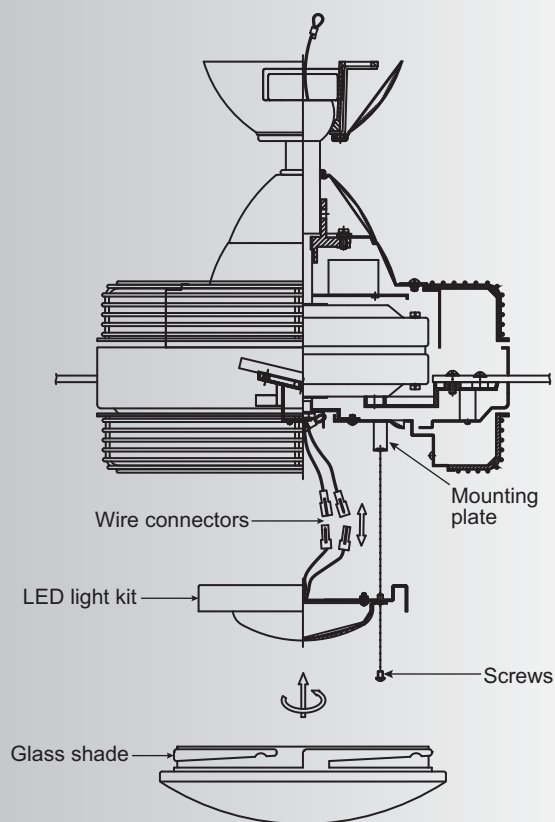

Fig. 20
Step 1. Loosen the three mounting screws on the inside of the LED light kit. (Fig.20)
Step 2. While holding the LED light kit under the fan motor, make the wire connections: (Fig. 20)
Step 3. Tuck the connections neatly into the mounting plate. Place the key holes on the LED light kit over the 2 screws previously loosened from the mounting plate, turn the LED light kit until it locks in place at the narrow section of the key holes. Secure by tightening all three screws. (Fig.20)
Step 4. Raise the glass shade against the light kit and turn clockwise until snug, **DO NOT OVERTIGHTEN.** (Fig. 20)